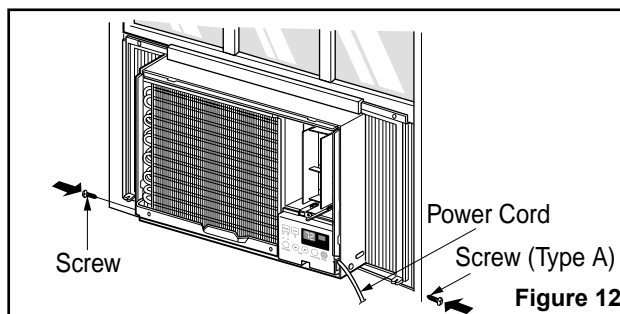

Figure 12
7. Slide the unit into the cabinet.(See Fig. 12)